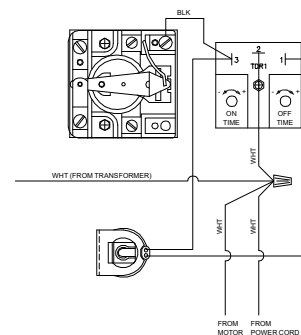
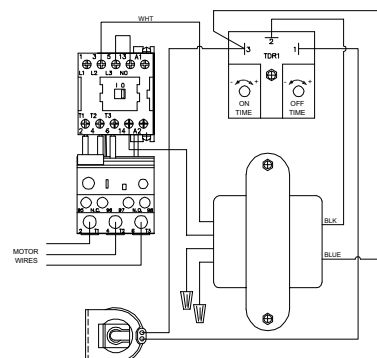

FIG. 5
FIG. 6
13. Turn unit on. Unit should pulse approximately every 60 seconds with a 1 second pulse duration. The time between pulses and duration of pulse can be adjusted as shown in **FIG. 5** and **FIG. 6**.